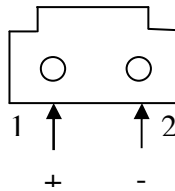

Figure 1: Diagram of the 2-pin connector viewed facing the connector
- 3) Before replacing the old battery core, measure the voltage of the new battery core. For the new battery core purchased from LinkQuest (refer to specification), the positive and negative leads of the 2-pin connector are depicted in Figure 1. The new battery core should register a voltage of at least 24 volts for ABP16D (the new battery cores may register a voltage that is 1 or 2 volts above the nominal voltage).